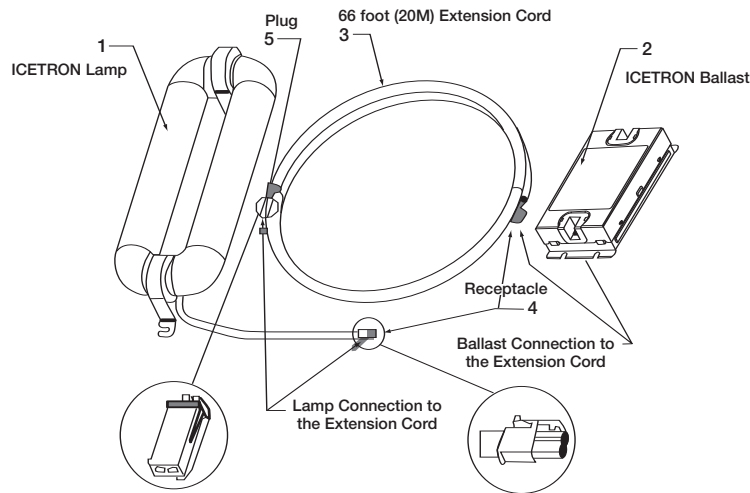

Figure 27: Remote Mounting
The ICETRON lamp (1) and ballast (2) can be remote mounted from each other using the specified remote mounting cabling (see Figure 27). The ICETRON QUICKTRONIC ballast will operate a lamp with a special high voltage cable (3) in conduit up to 66 feet (20 meters) long as specified below. Only this cable is approved for operation with the ICETRON QUICKTRONIC system. Use of an unapproved cable voids the warranty.